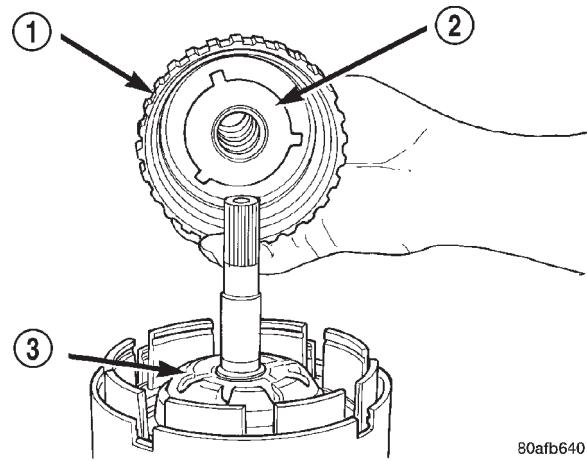

Fig. 289 Install Overdrive Shaft Assembly
(41) Install the overdrive shaft assembly (Fig. 289).
(42) Reinstall overdrive and reverse clutch as shown. **Rechecking these clutch clearances is not necessary.**